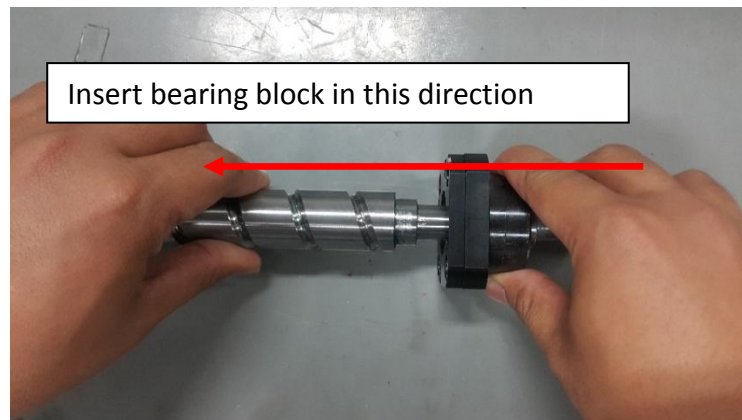

Figure 38 End bearing block
30. Gently Insert the end bearing as Figure 38 and push till end of ball screw.